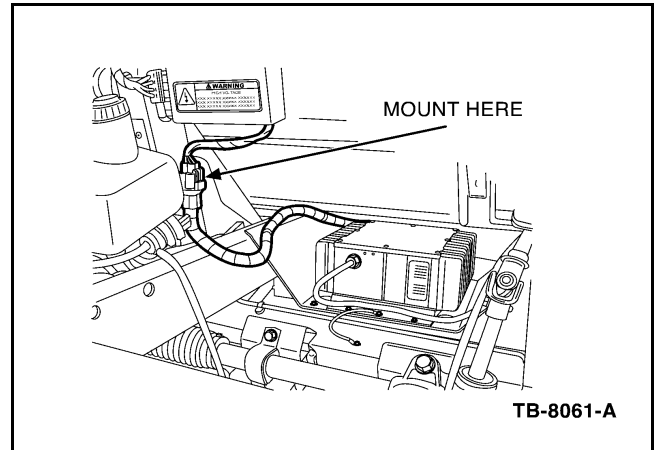

Figure 20 - Article 04-24-9
6. Drill a 1/4" hole into the side vertical frame member and secure the connector with the fire tree of the connector into the hole (Figure 20).